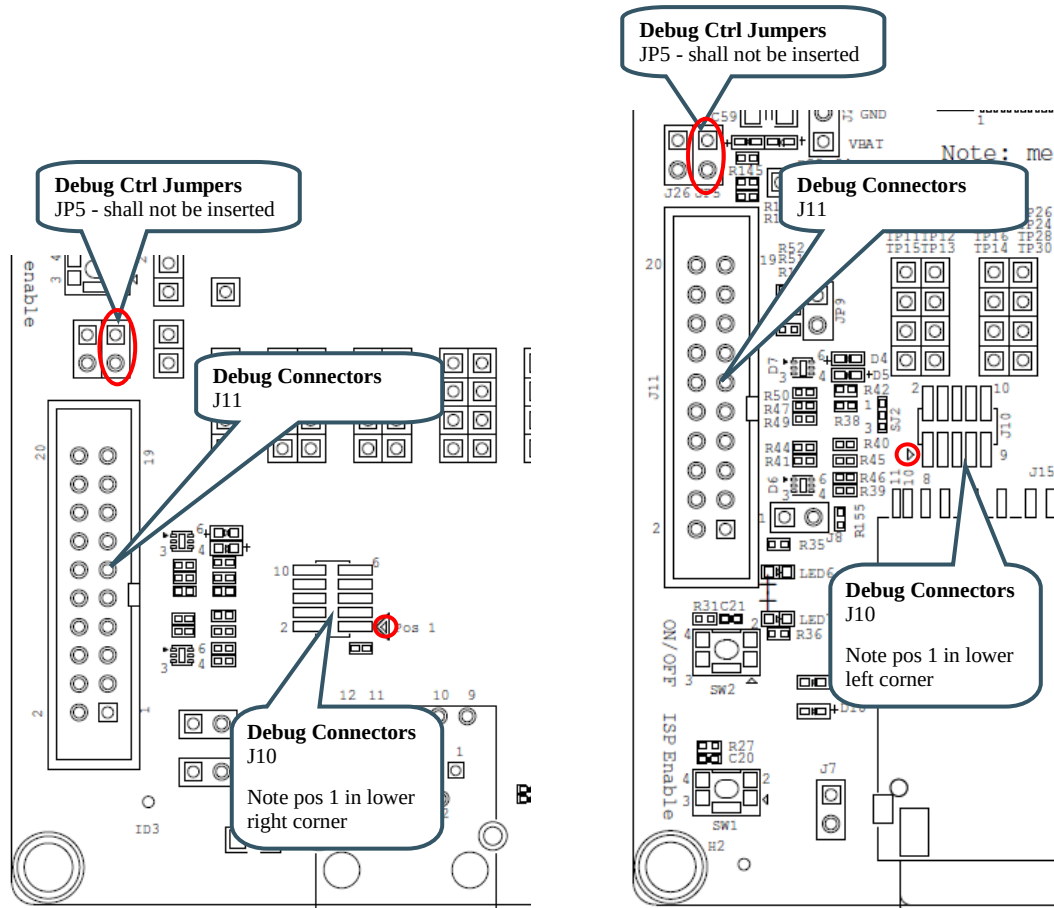

Figure 11 – Debug Interfaces on rev A and rev B1 iMX OEM Carrier board, respectively
- J10 – this is a Cortex Debug connector. It is a 2x5 pos, 50 mil pitch connector without a shroud. Be careful when inserting the debug probe cable. Position 1 is specifically marked on the PCB silkscreen. It is located in the lower right corner, see Figure 11 below. The connector supports both the SWD and JTAG interfaces.